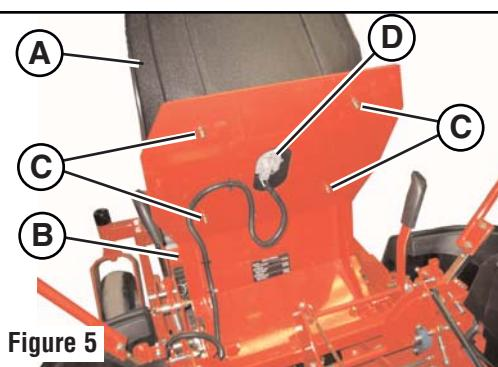

Figure 5
- Install the seat (A, Figure 5) onto the seat plate (B) and fasten securely with the 5/16" nylock flange nuts (C).
- Press the seat switch wire harness end onto the seat switch (D, Figure 5) until the latch of the seat switch wire harness end snaps down over the lock on the seat switch.